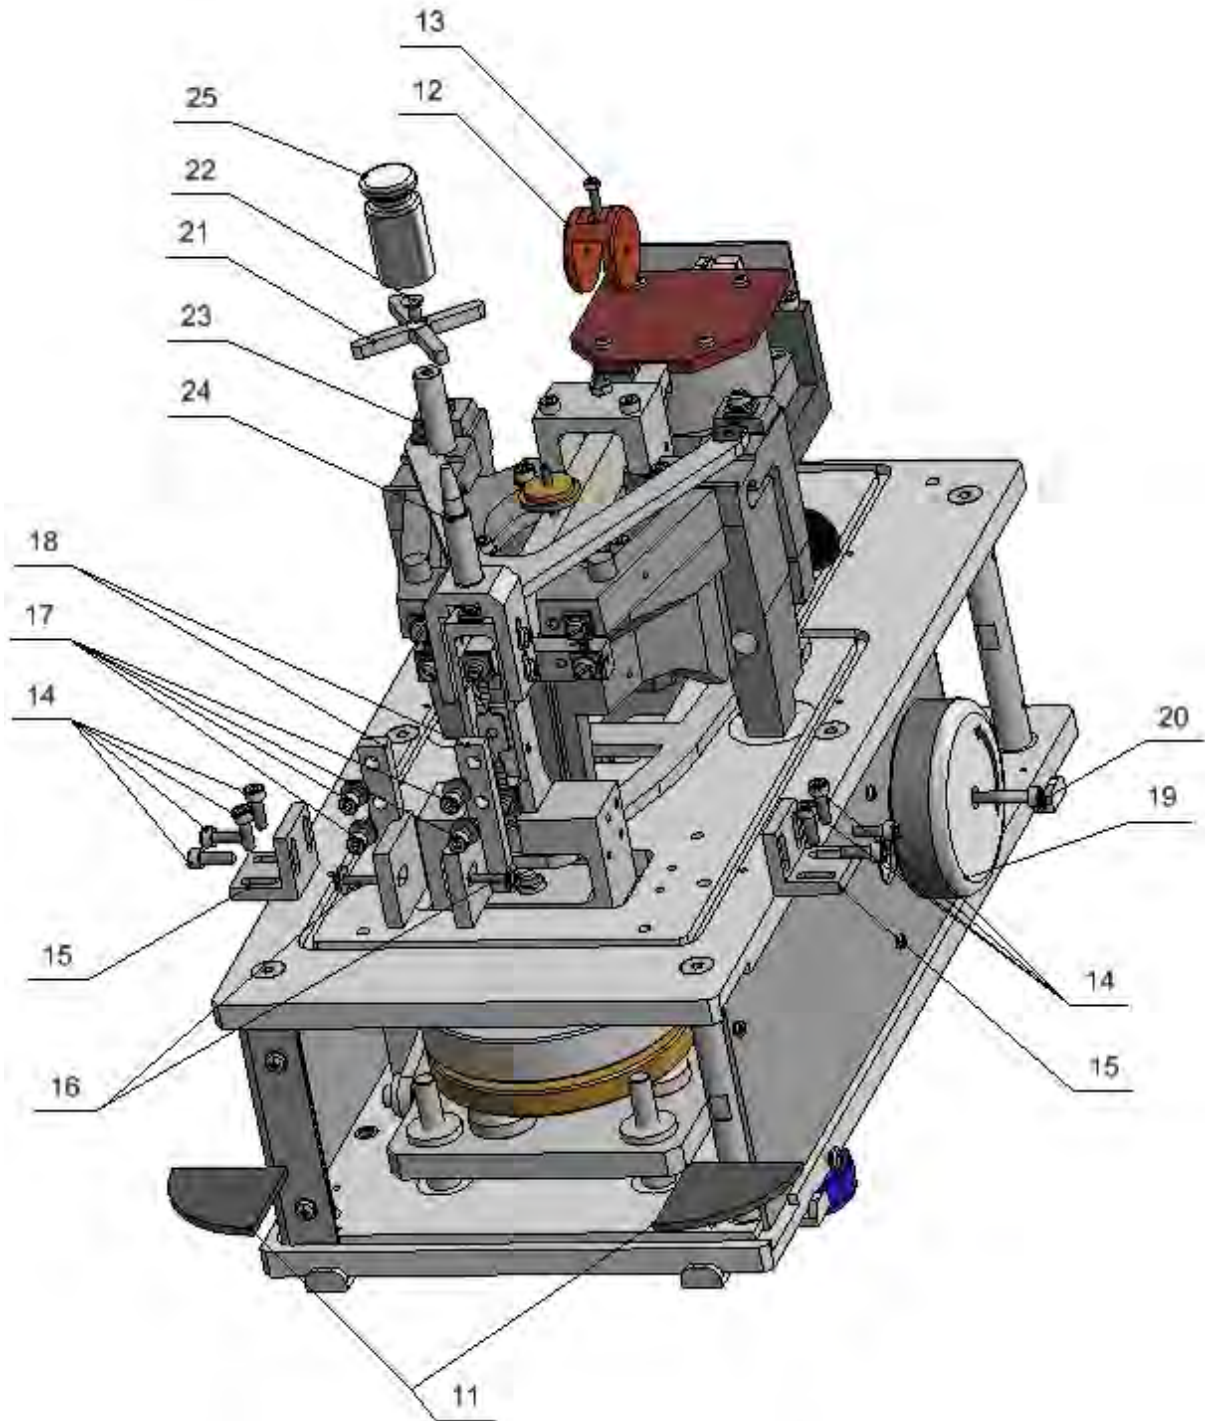
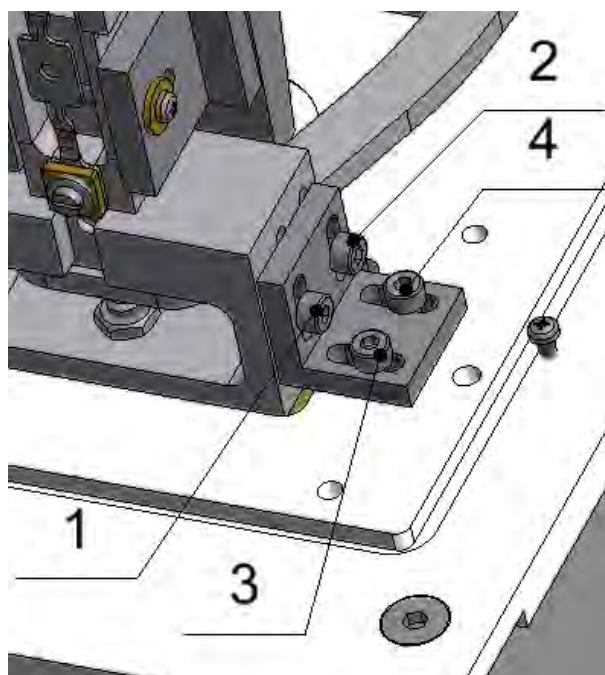
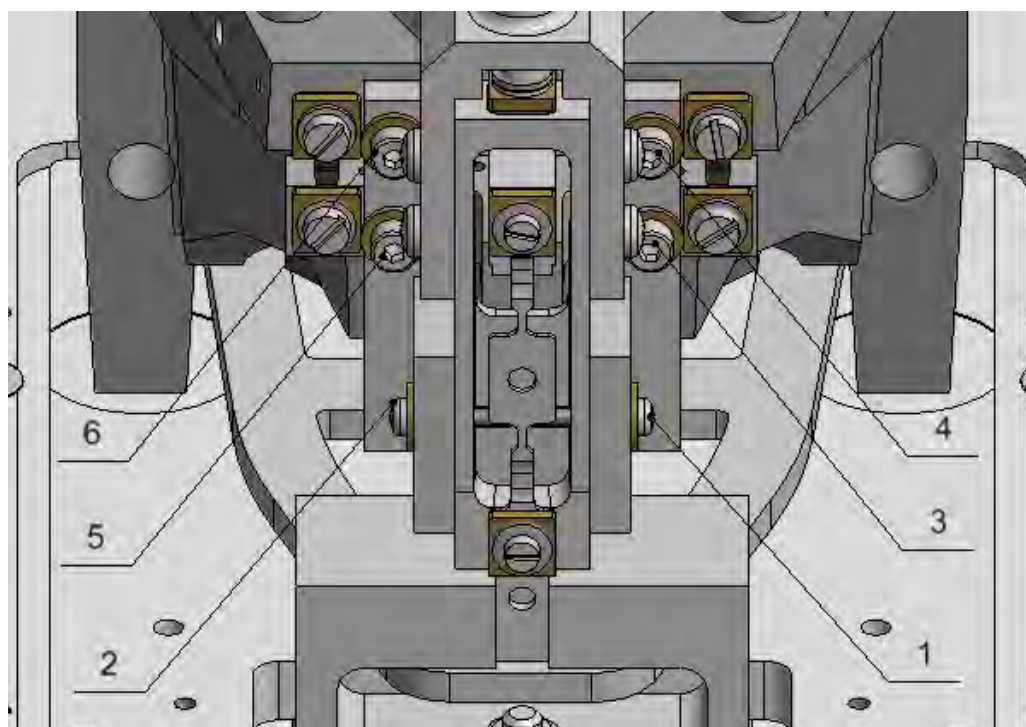

Fig. 3
Fig. 4
Fig. 5
11. Remove foam inserts (11) placed between ballast weights. (Fig. 3)
12. Using M3 screw (13) ballast the lever (12). Perform this action carefully following instruction lines marked on a lever, while screwing do not let the lever move from side to side, this could cause tension of vertical flexure. (Fig. 3)
- 13.1 Undo four M4 screws (14), keep to the order presented in figure 4, next remove interlocking (15). (Fig. 3)
14.1. Undo two M3 bottom screws (16), (Fig. 3), next loosen four M4 screws (17), (Fig. 3), keep to the order presented in figure 5. Be careful so as not to cause any damage of vertical flexures.
14.2 Undo four M4 screws (17), (Fig. 3), remove interlocking of the rocker (18). (Fig. 3)
15. Using M4x30 screw (20), install knob (19). To make sure that the weights are set to max load position try to turn the knob left, keep turning until the knob resists. (Fig. 3)
16. Check ballast weights position by turning the knob (19) maximally to the left and to the right. (Fig. 3)
17. Turn the knob (19) to its maximum extent.
- Using M4x10 screw (22) fix the weighing pan (21) to a mandrel (23), next place such complex set on a vertical rocker extension (24). (Fig. 3).
- Connect the device to mains, turn it on and check the number of divisions by depositing maximum load (25), permissible for the comparator, onto the weighing pan (21). (Fig. 3)
19. Take off the load (25), the set comprising a weighing pan and a mandrel (21) (22) (23), uninstall the knob (19) and disconnect the device from mains.